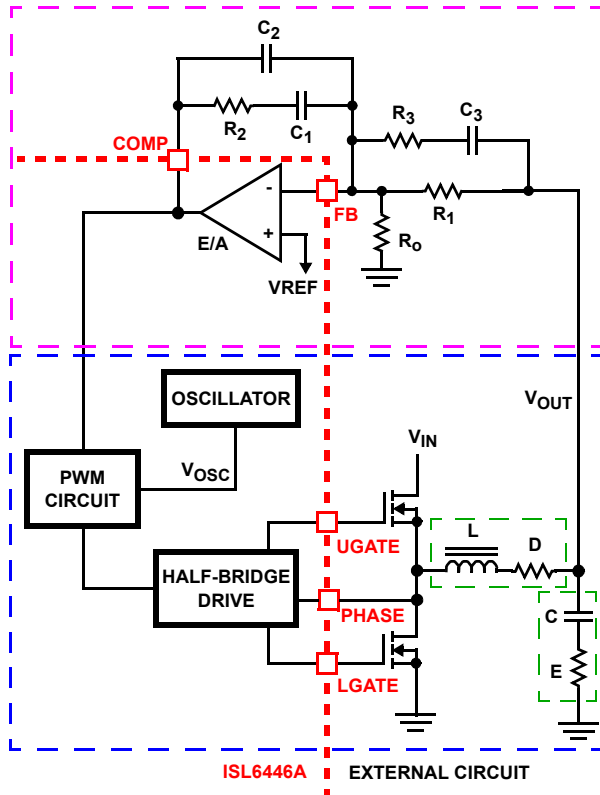

FIGURE 26. VOLTAGE-MODE BUCK CONVERTER COMPENSATION DESIGN
Figure 26 highlights the voltage-mode control loop for a synchronous-rectified buck converter, applicable to the ISL6446A circuit. The output voltage (V_{OUT}) is regulated to the reference voltage, V_{REF} . The error amplifier output (COMP pin voltage) is compared with the oscillator (OSC) modified sawtooth wave to provide a pulse-width modulated wave with an amplitude of V_{IN} at the PHASE node. The PWM wave is smoothed by the output filter (L and C). The output filter capacitor bank's equivalent series resistance is represented by the series resistor E.
The compensation network consists of the error amplifier (internal to the ISL6446A) and the external R_1 to R_3 , C_1 to C_3 components. The goal of the compensation network is to provide a closed loop transfer function with high OdB crossing frequency (F_0 ; typically 0.1 to 0.3 of f_{SW}) and adequate phase margin (better than 45°). Phase margin is the difference between the closed loop phase at F_{0dB} and 180° . The equations that follow relate the compensation network's poles, zeros and gain to the components (R_1 , R_2 , R_3 , C_1 , C_2 and C_3) in Figure 26. Use the following guidelines for locating the poles and zeros of the compensation network:
1. Select a value for R_1 ($1k\Omega$ to $5k\Omega$, typically). Calculate the value for R_2 for desired converter bandwidth (F_0). If setting the output voltage via an offset resistor connected to the FB pin, R_0 in Figure 26, the design procedure can be followed as presented in Equation 13.